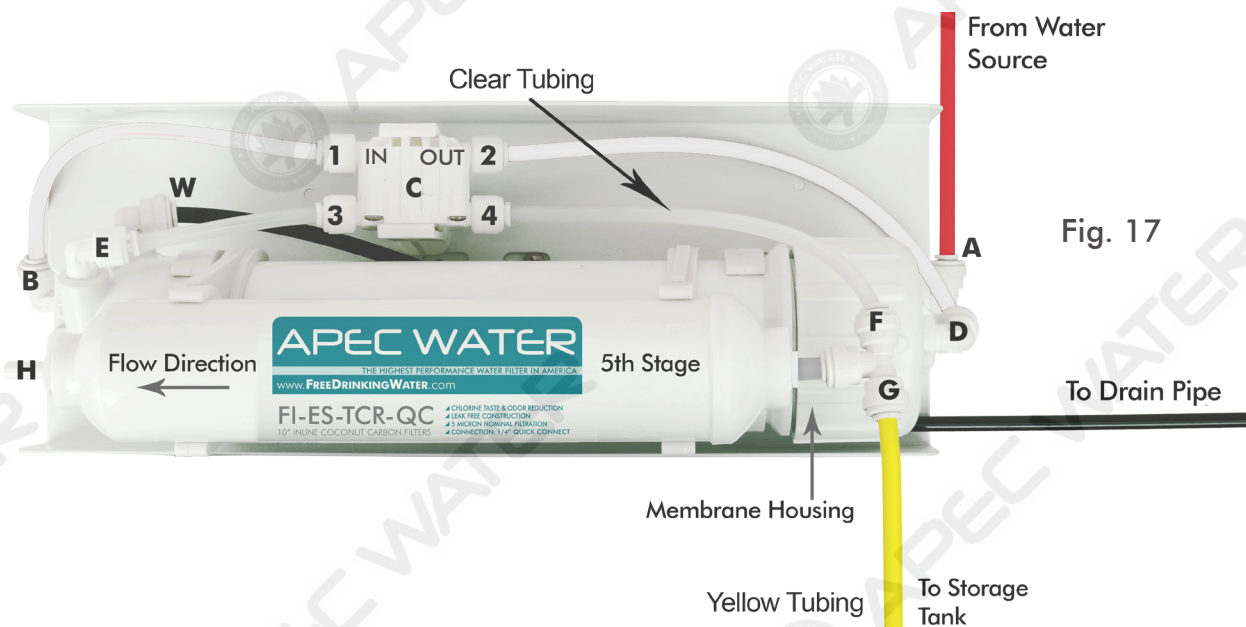

Fig. 17
- ASO connection Error → See **Fig. 17** to reconnect ASO to the correct connection.
When RO makes a humming noise, most likely it's caused by air bubbles being trapped in the "Check Valve" during installation. See check valve on **Fig. 17, point E (Page 29)**.